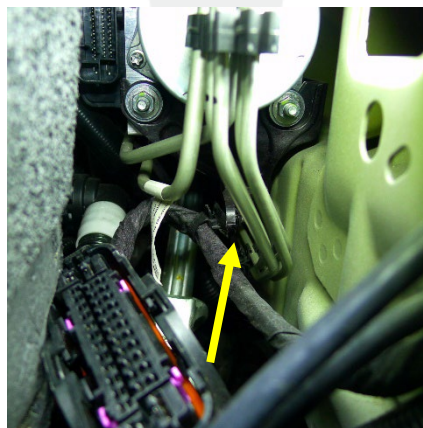

Figure 7
9. Release the clip that attaches the electrical harness to the HCU bracket (Figure 7).